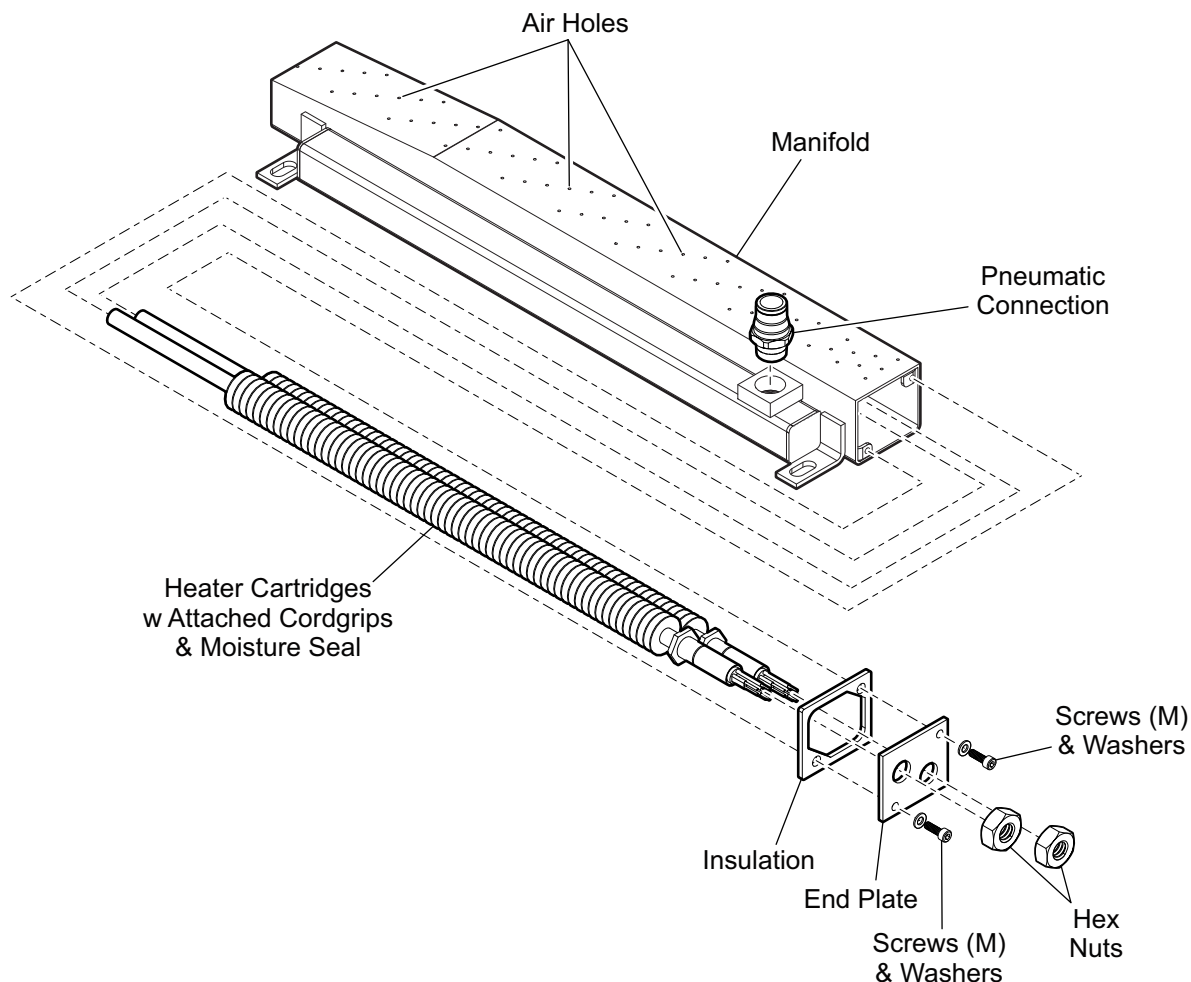

Figure 5-28: Sealed Heater Cartridge Manifold
5. Disconnect the 1/2" pneumatic supply line from the pneumatic connection on the manifold (see Figure 5-28: Sealed Heater Cartridge Manifold).